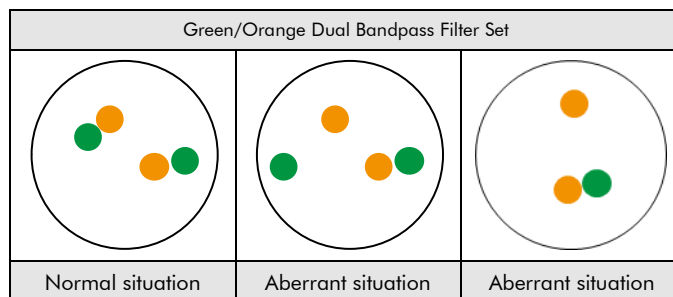

Fig. 2: Expected results in normal and aberrant nuclei
**Normal situation:** In interphases of normal cells or cells without an intragenic translocation involving the PAX5 gene region, two green/orange fusion signals appear (see Fig. 2).
**Aberrant situation:** One PAX5 gene region affected by an intragenic translocation is indicated by one separate green signal and one separate orange signal. In a cell with an unbalanced translocation resulting in a 3' deletion, one separate orange signal and one orange/green fusion signal will be observed (see Fig. 2).